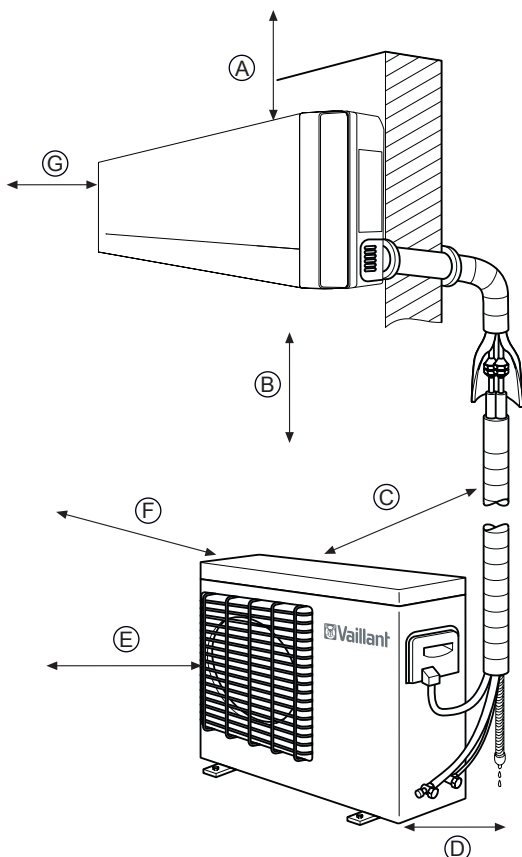

Fig. 8.1 General diagram of the installation and the minimum assembly distances.
- Observe the minimum clearances indicated in Figure 8.1.